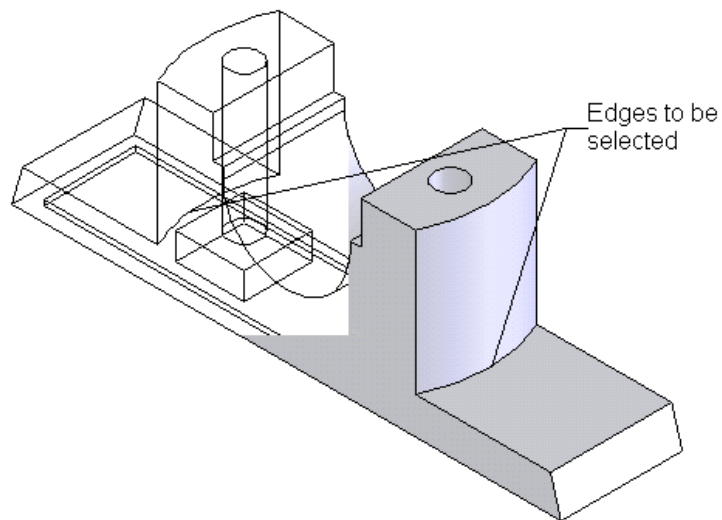

Figure 6-88 Edges to be selected for the fillet feature
- g. Create the fillet feature on the solid model, refer to Figures 6-88 and 6-89.
2. Using the select tool select the edges shown in Figure 6-88.